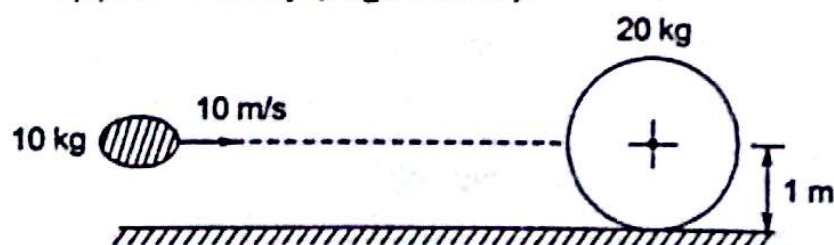

Fig. 19.23
12.11 A 1 kg mass of clay, moving with a velocity of 10 m/s, strikes a stationary wheel and sticks to it. The solid wheel has a mass of 20 kg and a radius of 1 m. Assuming that the wheel is set into pure rolling motion, the angular velocity of the wheel immediately after the impact is approximately (Fig. 19.23).